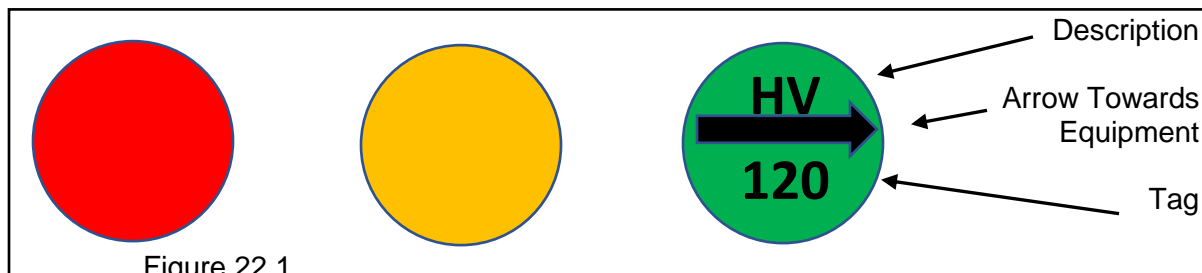

Figure 22.1
- Label shall follow the layout shown in Figure 22.1 and be oriented to indicate the equipment location. The tag number shall match the as-built drawings.